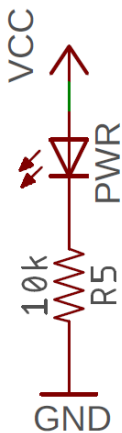

Figure 2: The power-on LED uses a current limiting resistor to set the LED's brightness.
2. Use TD-Figure 2 to name each of the 3 pins below. For example, A = GND, B = GND, C=GND. Clearly, this is not the correct answer.
A power-on LED shown in Figure 2 provides positive confirmation the power is being delivered to the circuit. This component is a "must-add" to any PCB you are designing and will save you many hours of head-scratching and wondering when diagnosing malfunctions which are the result of no power being supplied to your circuit.
4. Assuming $VCC = 9V$, what is the voltage drop across the current limiting resistor R5 in Figure 2? Use the current from the previous problem to help answer the question.
5. Assuming $VCC = 9V$, how much current flows through the current limiting resistor R5 in Figure 2? This current will be different from the current in the previous problem – I am looking for an estimate of the current, not an exact value.
7. Given the circuit configuration shown in Figure 2, what is the maximum VCC you can supply without exceeding the maximum continuous current through the LED?
8. Given the circuit configuration shown in Figure 2 with $VCC=9V$, what is the smallest resistance you can use for R5 without exceeding the maximum continuous current through the LED?